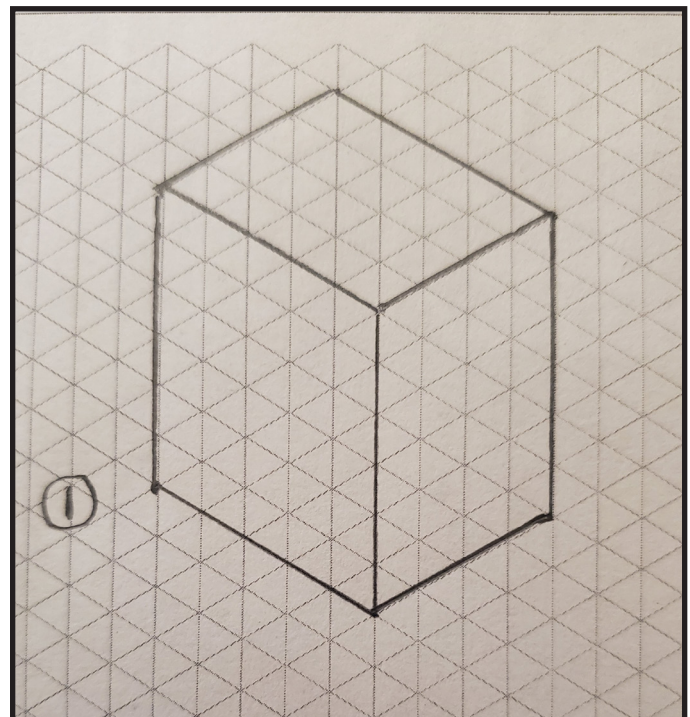

Figure 4.11 - Object Bounds
Step 1 - The first general step in creating an isometric drawing is to determine the correct bounds of the object and draw a construction box on the isometric grid paper. See figure 4.11.